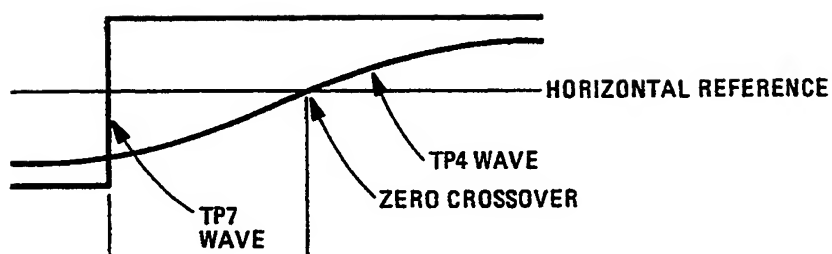

Figure 5-3. 220 Hz Zero Crossover
3. Adjust oscilloscope position controls to superimpose waveforms. Establish a horizontal grid line as dc average of the TP4 waveform by turning the HP 11683A MODE to STANDBY and positioning the Channel A trace on the line. Set the HP 11683A back to CALIBRATE. Turn the oscilloscope horizontal MAGNIFIER to  $\times 10$  so that time calibration will be  $50 \mu\text{s}/\text{div}$ . See Figure 5-3.